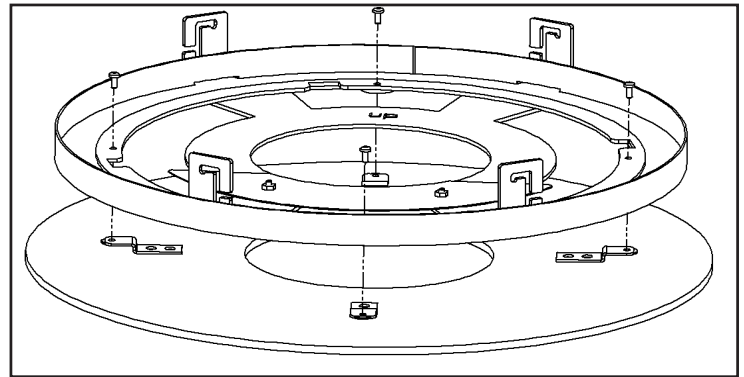

Figure 40: Top Plate Fascia Band Removal
Remove the four (4) T20 screws. Twist the Fascia Band assembly and lift the fascia band up to remove it (see Figure 40).